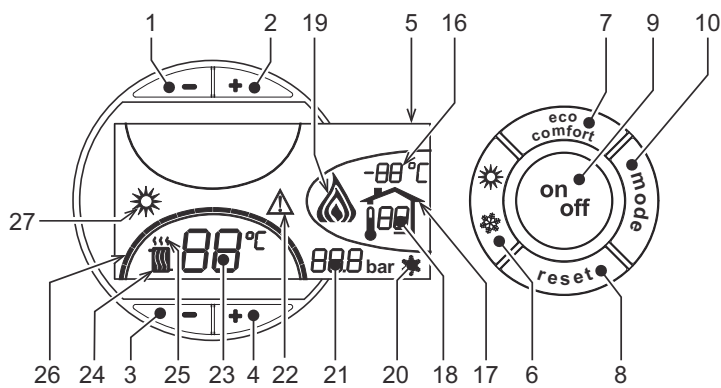
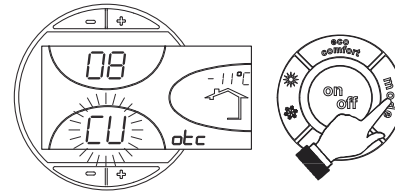
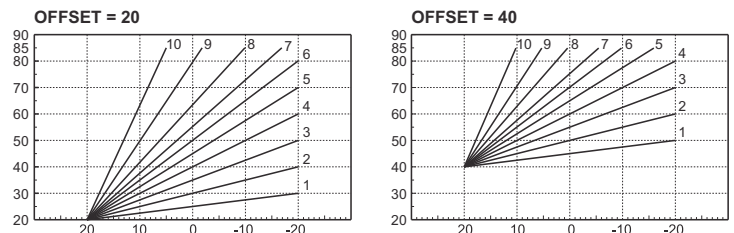

fig. 1 - Control panel
fig. 9 - Compensation curve
fig. 12 - Example of compensation parallel curve offset
Press the **on/off** button (detail 9 - fig. 1) for 1 second.
To relight the boiler, press the **on/off** button (detail 9 - fig. 1) again for 1 second.
- Press the ON/OFF button (9 - fig. 1)
Press the **summer/winter** button (detail 6 - fig. 1) for 1 second.
The display activates the Summer symbol (detail 27 - fig. 1): the boiler will only deliver domestic hot water. The antifreeze system remains activated.
To deactivate the Summer mode, press the **summer/winter** button (part. 6 - fig. 1) again for 1 second.
Use the **heating** buttons (details 3 and 4 - fig. 1) to adjust the temperature from a min. of 30°C to a max. of 80°C.
Use the DHW buttons **-/+** (details 1 and 2 - fig. 1) to adjust the temperature from a min. of 10°C to a max. of 65°C.
When the optional external probe is installed the control panel display (detail 5 - fig. 1) shows the actual outside temperature read by the probe. The boiler control system operates with "Sliding Temperature". In this mode, the temperature of the heating system is adjusted according to the outside weather conditions, in order to ensure high comfort and energy saving throughout the year. In particular, as the outside temperature increases, the system delivery temperature is decreased according to a specific "compensation curve".
With Sliding Temperature adjustment, the temperature set with the heating buttons **-/+** (details 3 and 4 - fig. 1) becomes the maximum system delivery temperature. It is advisable to set a maximum value to allow system adjustment throughout its useful operating range.
Press the **mode** button (detail 10 - fig. 1) once to display the actual compensation curve (fig. 9), which can be modified with the **DHW** buttons (details 1 and 2 - fig. 1).
Press the **heating** buttons (details 3 and 4 - fig. 1) to access parallel curve offset (fig. 12), modifiable with the **DHW** buttons (details 1 and 2 - fig. 1).
Press the **mode** button (detail 10 - fig. 1) again to exit parallel curve adjustment mode.
If the Remote Timer Control (optional) is connected to the boiler, the above adjustments are managed according to that given in table 1. Also, the control panel display (detail 5 - fig. 1) shows the actual room temperature detected by the Remote Timer Control.
Eco/Comfort selection	On disabling DHW from the Remote Timer Control menu, the boiler selects the Economy mode. In this condition, the button 7 - fig. 1 on the boiler panel is disabled.
On enabling DHW from the Remote Timer Control menu, the boiler selects the Comfort mode. In this condition it is possible select one of the two modes with the button 7 - fig. 1 on the boiler panel.